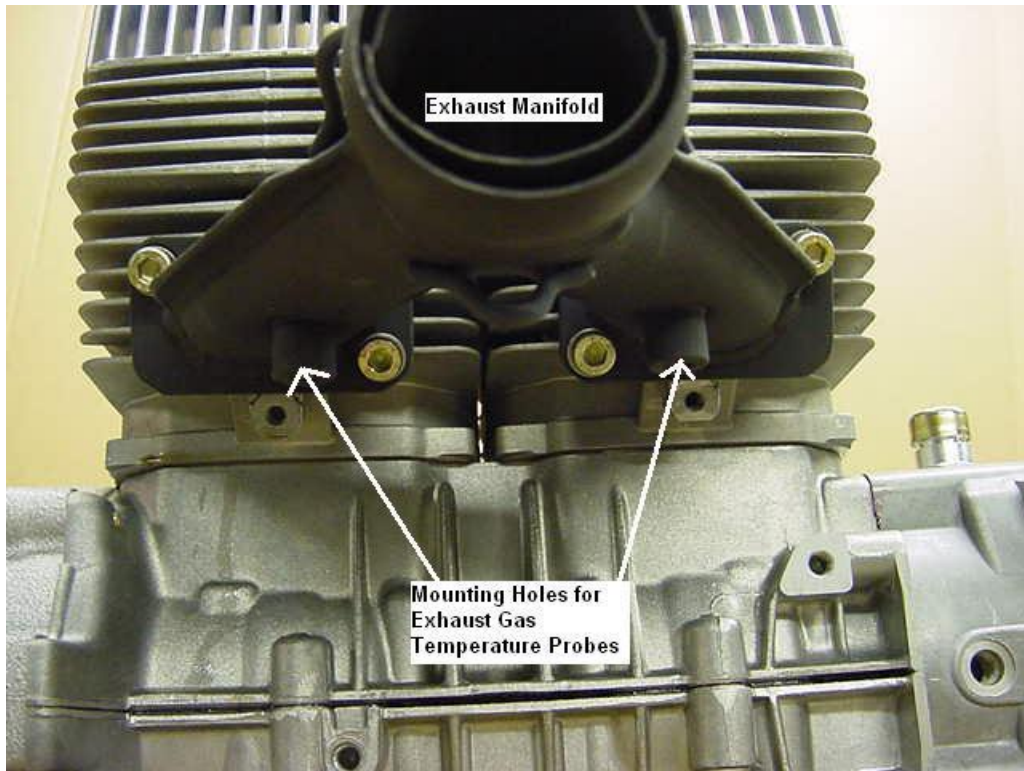

Figure 4 – Exhaust Manifold
Turn Engine right side up and mount the exhaust manifold according to the torque specs using the (4) 8mm Allen Bolts provided with the engine. Install supplied gasket between manifold and engine. Note the location of the Exhaust Gas Temperature Mounts (EGT). They should be facing down. Refer to Figure 4.